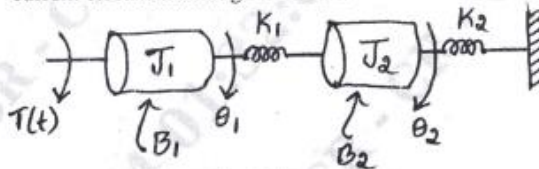

Fig Q2(b) (08 Marks)
- b. Write the differential equations governing the mechanical system shown in Fig Q2(b). Draw the torque - current electrical analogous circuit.